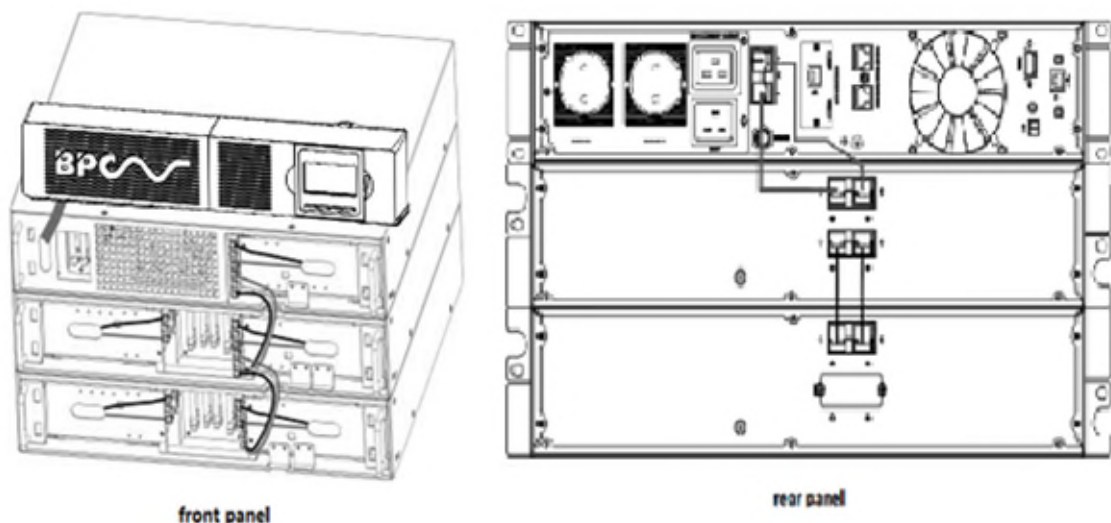

Figure 10 - Typical BC Installation
- c) For the bottom (or only) BC, remove the BC cable knockout on the top of the BC front cover. See Figure 10 for the location of the top BC cable knockout.
- d) If you are installing more than one BC, for each additional BC remove the BC cable knockout on the top and bottom of the BC front cover. See Figure 10 for the location of the BC cable knockouts.
- e) Plug the BC cable(s) into the battery connector(s) as shown in Figure 10. Up to four BCs may be connected to the UPS. Connect black to black,. Press the connector tightly together to ensure a proper connection.